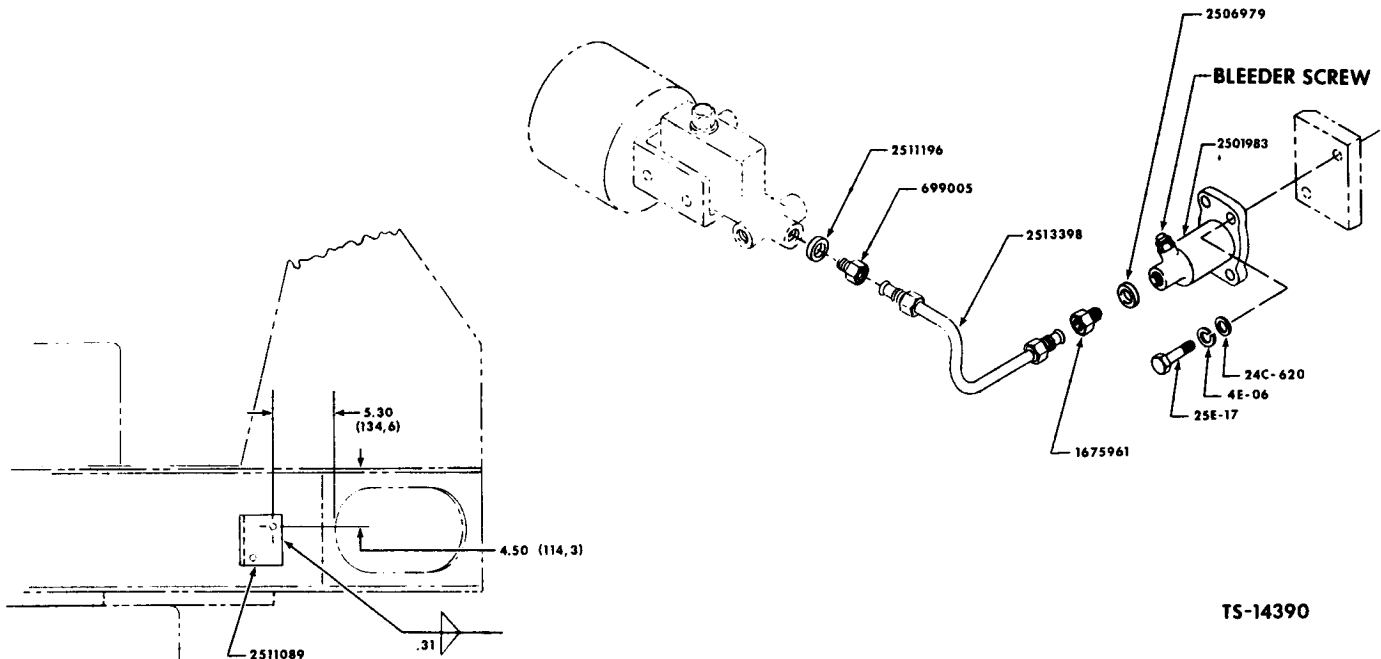

Figure 4.
4. Install 2501983 Compensator Valve on mounting plate as shown in Figure 4 using two 25E-17 Flatwashers, two 4E-06 Lockwashers and two 24C-620 Bolts. Tighten bolts to 23-25 ft. lbs. torque.
5. Remove plug on outlet section of master cylinder and install 2511196 Gasket and 699005 Adapter as shown in Figure 4.
6. Install 2506979 Gasket and 1675961 Adapter on brake compensator valve as illustrated in Figure 4.